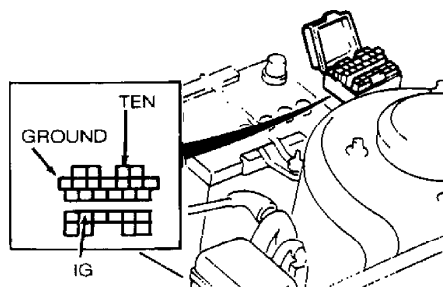

Fig. 5: Miata, Protege & 323 Diagnostic Connector Terminal ID
1) Connect Diagnostic Tester (49B0199A0) to diagnostic connector and select SELF TEST mode, or connect jumper wire between diagnostic connector terminals TEN and GND. See Fig. 5.
1) Connect Diagnostic Tester (49B0199A0) to diagnostic connector and select SELF TEST mode, or connect jumper wire between diagnostic connector terminals TEN and GND. See Fig. 5. Connect tachometer to diagnostic connector terminal IG(-).